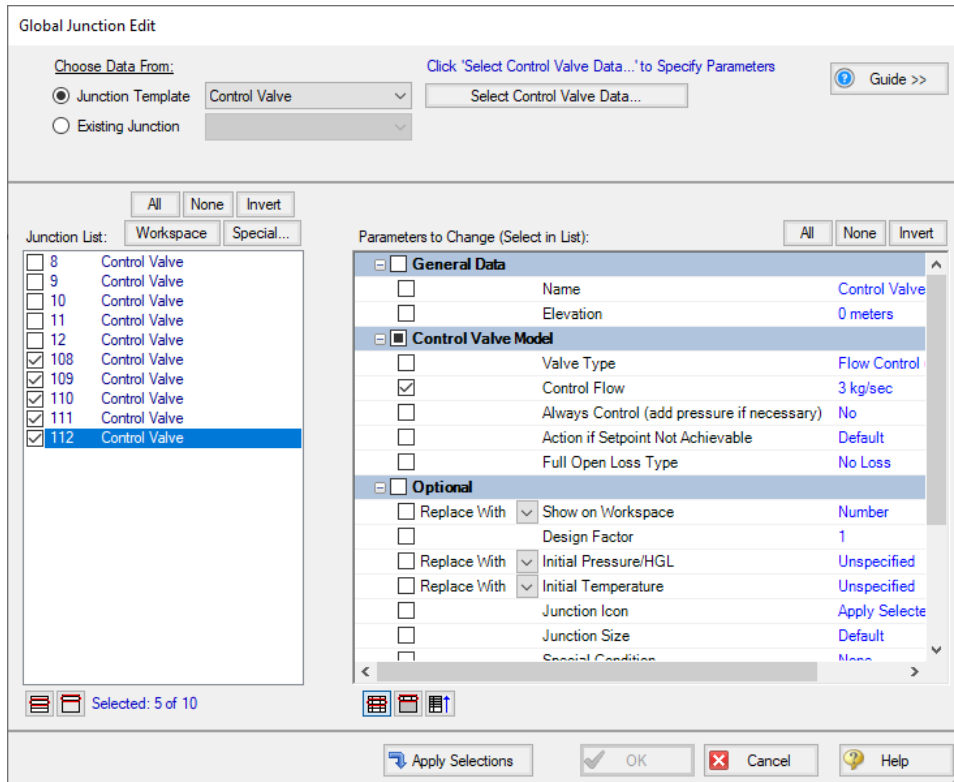

Figure 10: Global Junction Edit is used to change the flows in the homes for the dependent cases
7. Use Global Junction Edit (from the Edit menu) to change all of the control valve setpoints in the DDC from 2.25 kg/sec to 3 kg/sec (see Figure 10).